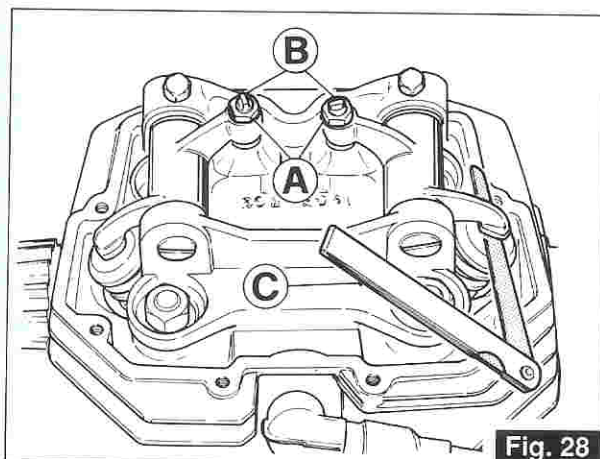

Fig. 28
5.7 CONTROLLO GIOCO PUNTERIE (fig. 28)
5.7 VALVE CLEARANCES (fig. 28)